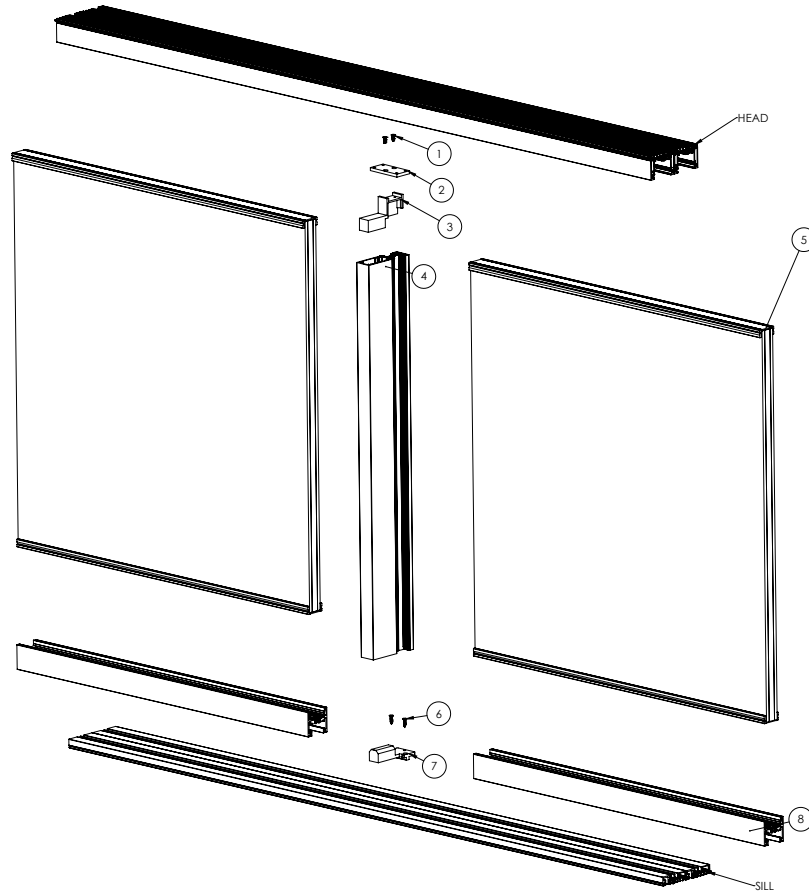

*Figure 12*
14. Attach the packet close out panel(s) to the pocket panel interlocker(s) using #10x1/2" PH Flat head screws. See **Figure 12**.